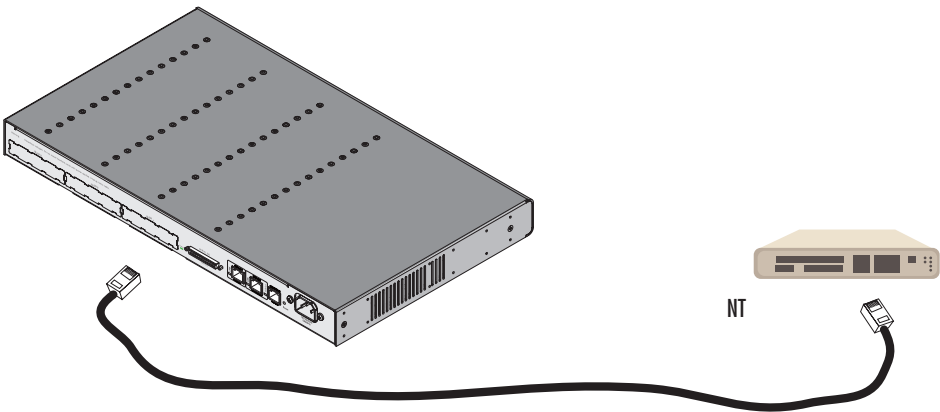

Figure 77. Connecting an E1 PRI port to an NT
The PRI is usually connected to a PBX or telco switch (local exchange (LE)). Type and pin-outs of these devices vary depending on the manufacturer. In most cases, a straight-through RJ-45 to RJ-45 can be used to connect the PRI (see table 39 for IC-E1V card port pin-out listing) with a PBX (an NT). A cross-over cable is required to connect to a LE, as illustrated in figure 77 on page 121.